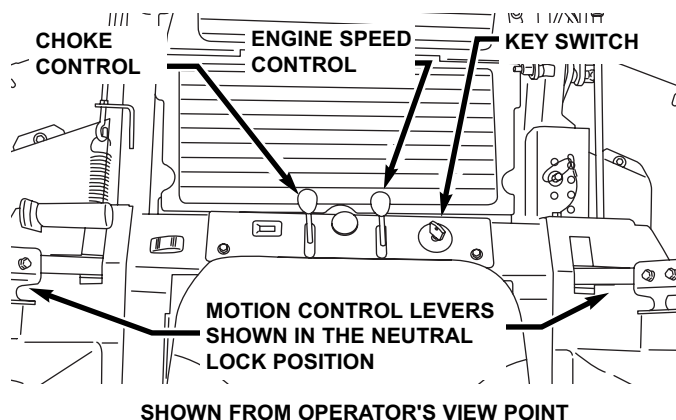

FIGURE 3.5
4. Move choke control forward to choke position to start a cold engine. See Figure 3.5.
5. Move engine speed control to the Rabbit "FAST" position. See Figure 3.5.
1. Start engine and set engine speed control to the Rabbit "FAST" position. See Figure 3.5.